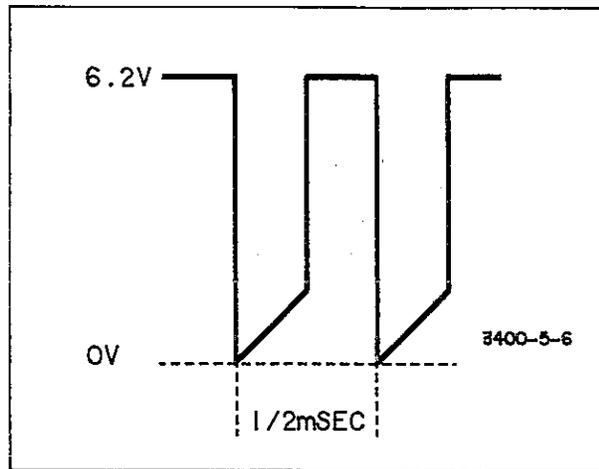

Figure 5-6. Input to Demodulator
| ② | Measure the signal between TP2 and TP1 on the A6 assembly. The signal should look like the one in Figure 5-6. | PASSES: Proceed to ④ FAILS: Proceed to ③ | ⑫ | The A6 assembly is probably working correctly. Make sure the meter assembly M1 and associated circuitry are good. | |